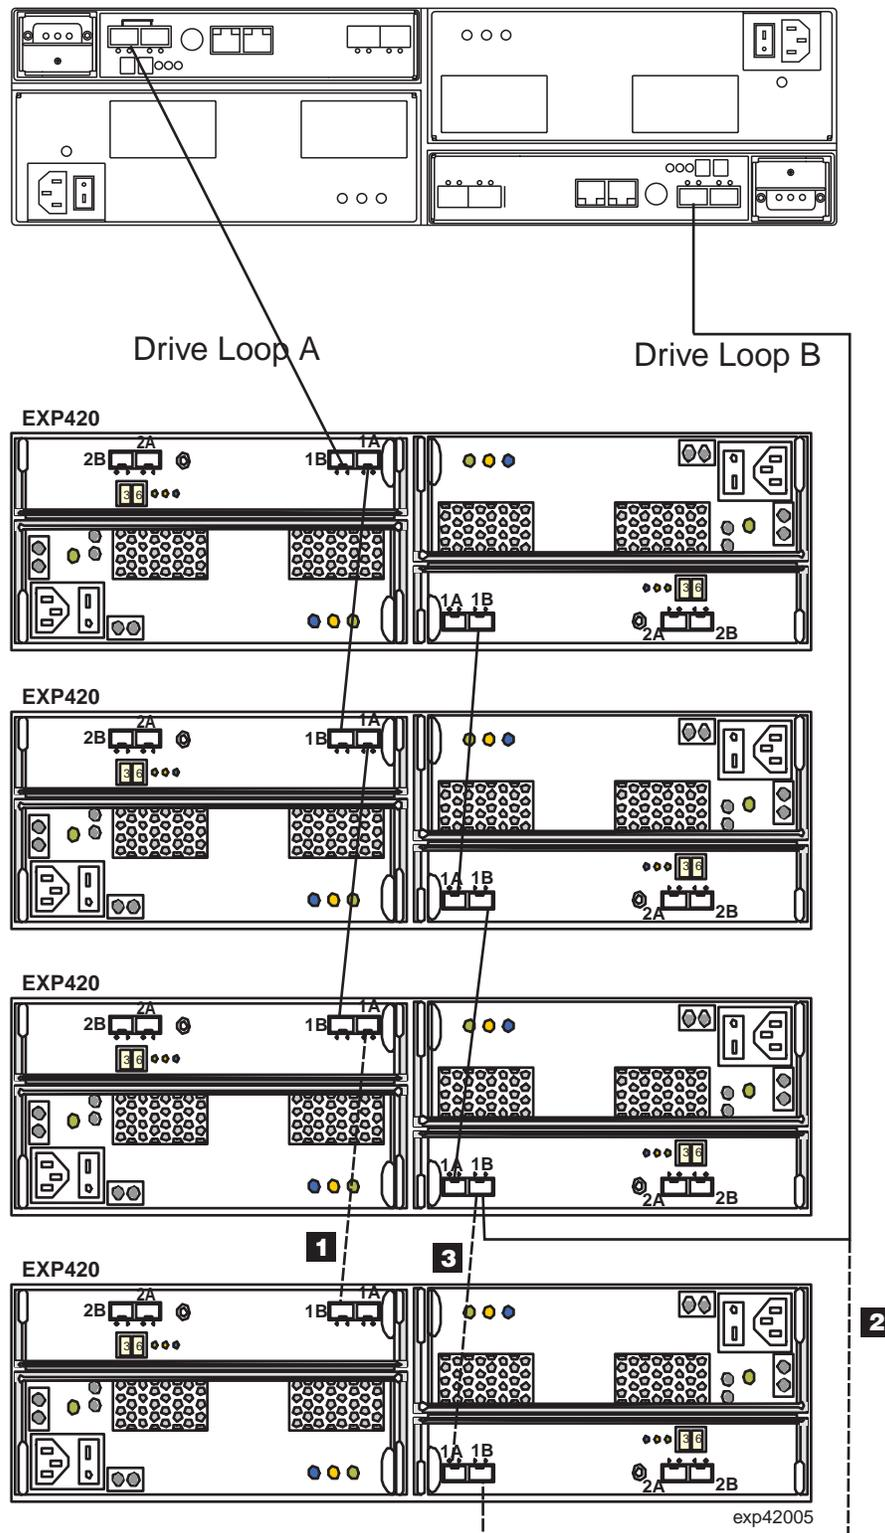

Figure 42. Cabling the EXP420 to an existing and configured drive loop
Figure 42 on page 75 shows an example of a DS4000 storage subsystem configured with redundant drive loop pairs.
The dashed lines in Figure 42 show how to add a new EXP420 to an existing DS4200 Express configuration with EXP420s. To add the new EXP420 shown in Figure 42, perform the following steps:
4. Make the fibre-channel connection marked **1** in Figure 42 on page 75 (drive loop A) by connecting port 1A of the existing EXP420 to port 1B of the new EXP420. Then verify that it is recognized by the Storage Manager software GUI.
5. Move the existing fibre-channel connection marked **2** in Figure 42 on page 75 from the existing EXP420 enclosure ESM port 1B to the new EXP420 enclosure ESM port 1B.
6. Make the fibre-channel connection marked **3** in Figure 42 on page 75 (drive loop B) by connecting port 1A of the new EXP420 to port 1B of the existing EXP420.